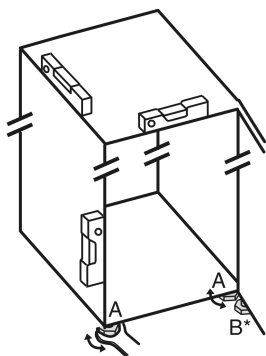

Fig. 5
- ▶ Unscrew the adjustable feet Fig. 5 (A) using the enclosed open-end spanner and a spirit level until the appliance is firmly aligned and level.
- ▶ Unscrew the adjustable foot Fig. 5 (B) on the swap bearing block with the enclosed open-end spanner until it rests on the floor.
- ▶ Turn the adjustable foot Fig. 5 (B) 90° further.